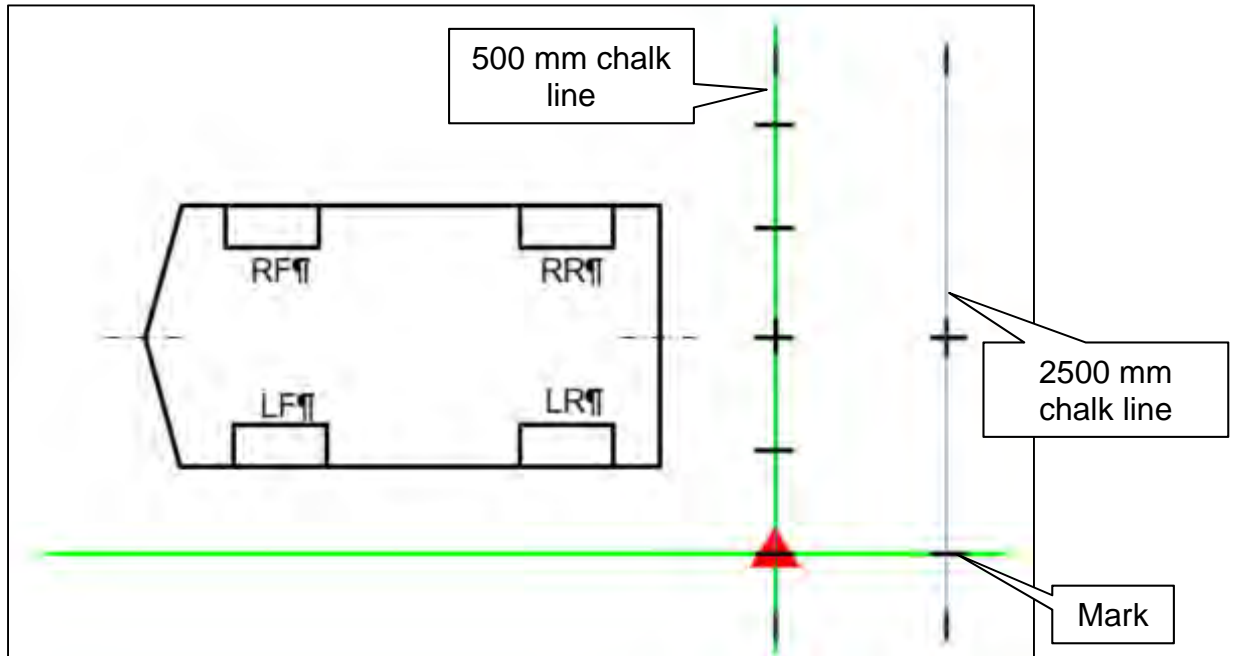
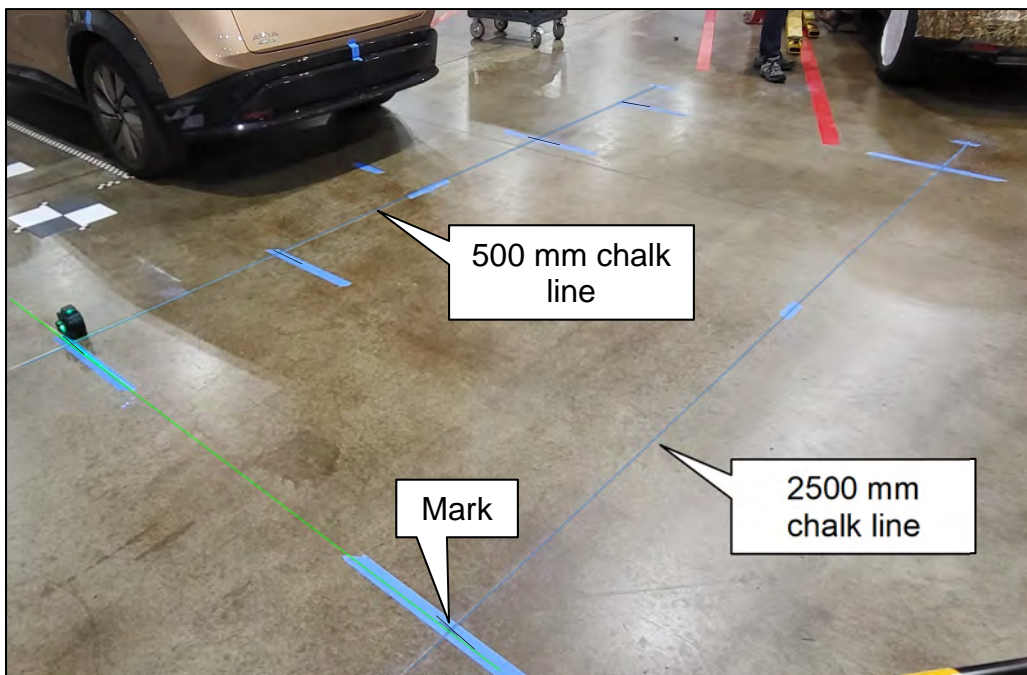

Figure 86
Figure 87
59. Move the laser level to the position shown in Figure 86, and then make a mark on the 2500 mm chalk line, as shown in Figure 86 and Figure 87.